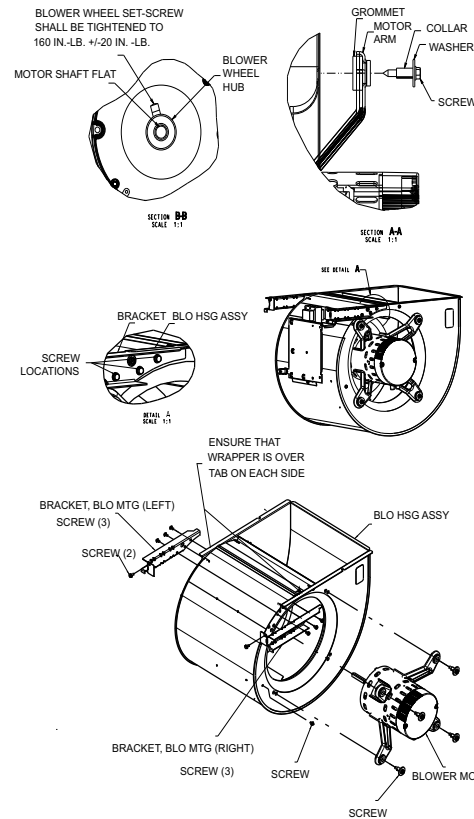

Fig. 63 – Blower Assembly on 100E21--22
NOTE: On 100E21--22 size, the top screw securing blower to shelf must be removed in order to remove the blower. (See Fig. 63)
- NOTE:** On 100E21--22, ensure that the blower wrapper sits on top of the two tabs on blower sidewalls. (Fig. 63)